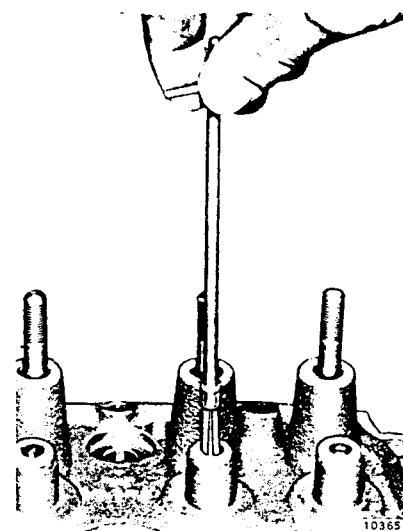

Figure 8-1-7
2. Thoroughly clean the valve guides using tool J-8101 (see Figure 8-1-7).